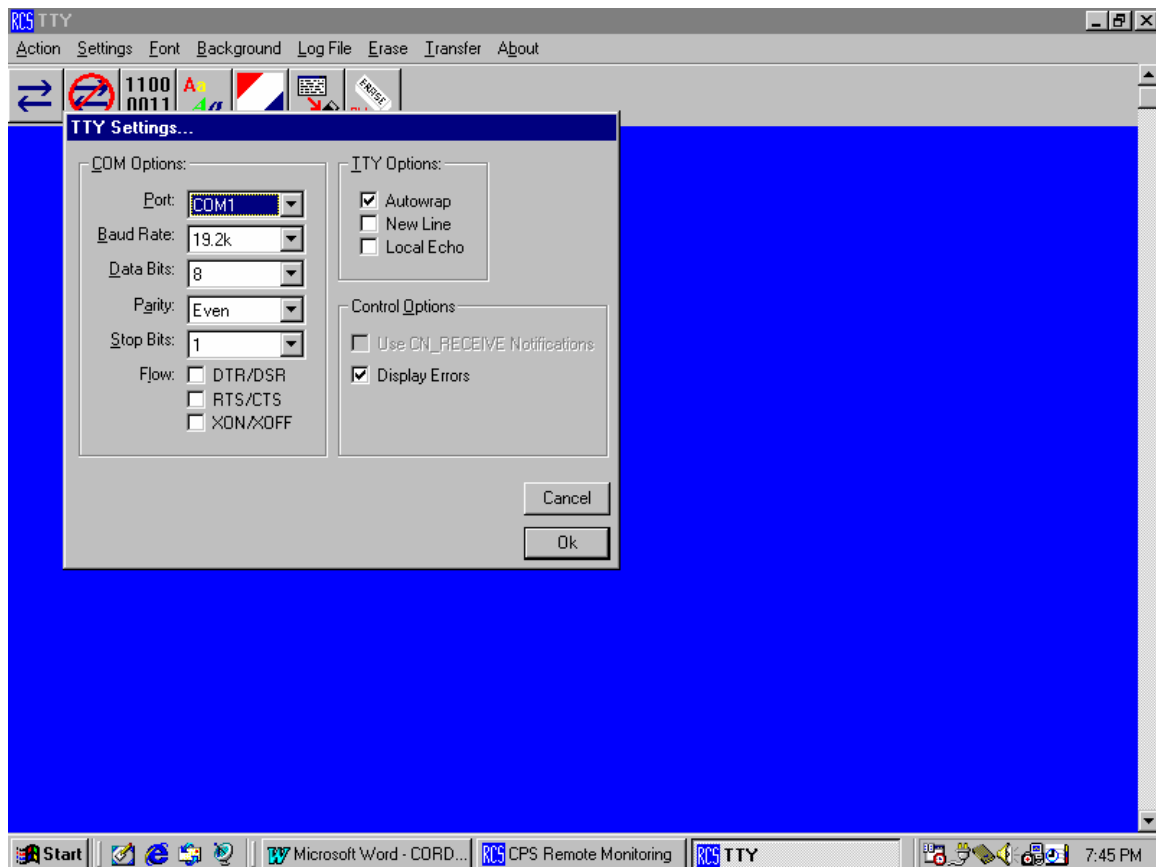

Figure 3.2 – Settings Menu in Serial Communication Program
- Step 6: Go to settings, and select the com port connected to your cable, this is usually com 1. (See Figure 3.2) . The baud rate of 19.2k, data bits 8, parity even, and stop bits 1 are preset, and should not be changed.